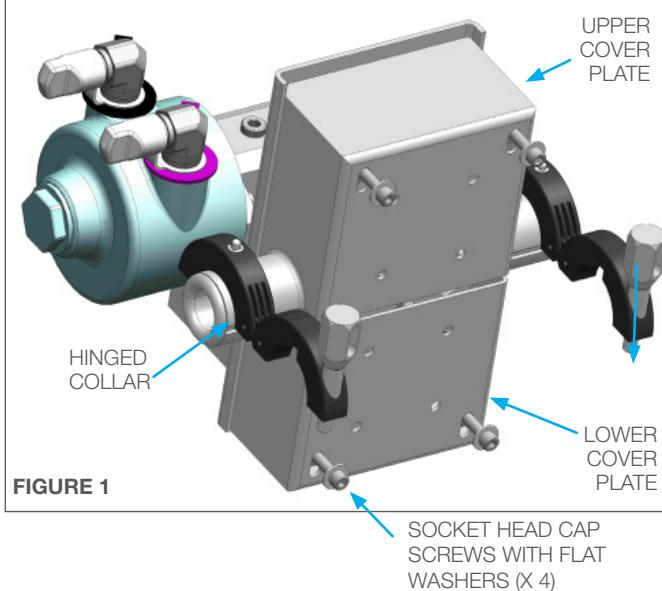
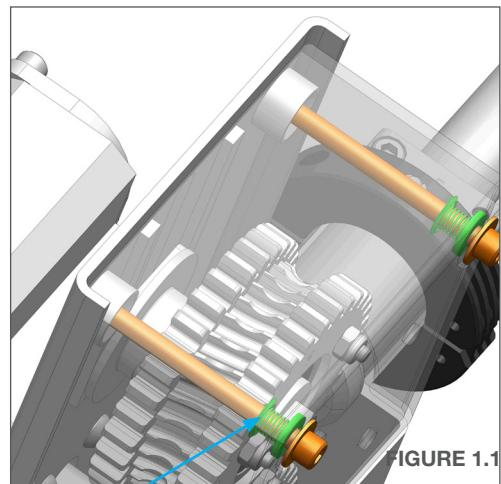

FIGURE 1
FIGURE 1.1
Before the Helix and Helix Containment Drives can be installed, they must be opened in order to feed and engage the Helix Hose. Both are shown below for identification purposes. (**Figure 1**). The Helix Containment Drive retracts the Helix Hose from the BTC-100 Assembly. The Helix Drive on the BTC-100 Assembly, feeds the hose through the BTC-100 Assembly and provides up to 50lbs of force and inserts the hose into the containment drum to push the chosen tool into the boiler tubes.
1. Remove the protective Gearbox Cover Plates by unhinging the two Hinged Collar Assemblies and unscrewing the 4 socket head cap screws with flat washers. (**Figure 1**) The Socket head cap screw Assemblies stay with each Gearbox Cover Plate as they are held in by a Self Locking Retaining Ring and Spring Mechanisms. (**Figure 1.1**)
1. Install the Follow Gear with Back Washer and 3/8" bolt, and Drive Gear from the 5mm Gearpack. **(Figure 1)**